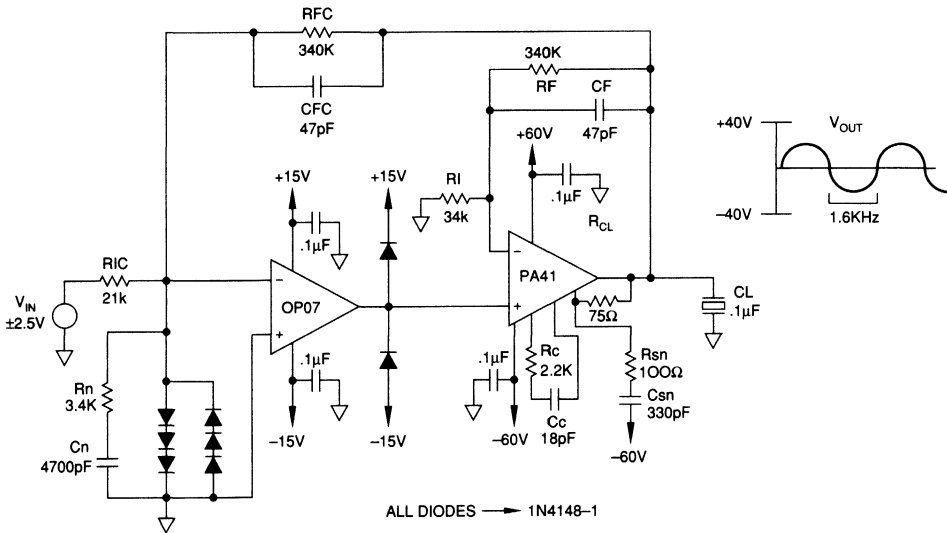

FIGURE 33. PA41 COMPOSITE PIEZO TRANSDUCER DRIVE
There are design cases where the input characteristics of a power op amp may not be sufficient to meet required specifications. In these cases one can still have the advantages of using the power op amp for linear analog control, but can optimize the front end of the circuit to meet the required specifications. A composite amplifier such as Figure 33 (see following page) will provide a highly accurate 75uV input offset voltage versus the 60 mV input offset voltage of the PA41. In the composite amplifier, the PA41 acts as a booster running in a closed loop gain of 11. The PA41 "booster" and the OP07 form a new composite amplifier with the feedback from output all the way back to the input of the OP07.
The application in Figure 33 provides an excellent opportunity for us to utilize our knowledge of stabilizing circuits with capacitive loads, as well as acquire new techniques for dealing with stability and composite amplifiers.
We will run the booster amplifier in a closed loop gain of 11 as shown in Figure 33 to allow more margin to work with when compensating the capacitive load. We know this from experience in designing many power op amp circuits with capacitive loads on the output.
P.S. — Refer to Figure 33. The 1N4148-1 diodes on the input of the OP07 provide differential and common mode overvoltage protection from transients through CFC. Piezo elements being electromechanical devices can generate high voltages if shocked mechanically. Output diodes of the OP07 prevent overvoltage transients that occur through CF and shunted through PA41 internal input protection diodes, from damaging the output of the OP07 connected to +input of PA41.